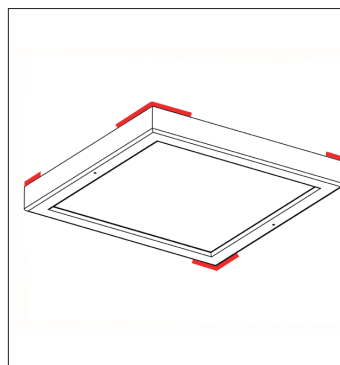

Fig. 2
- Place the LED-coloured light at the desired spot and mark the corners of the LED-coloured light with a pen (Fig. 2).